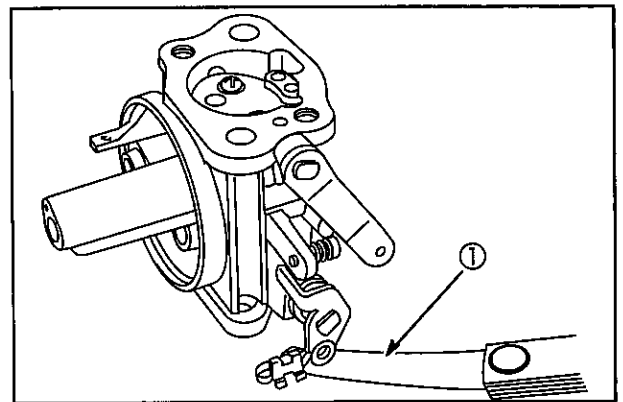

Fig. 41
1. Lay carburetor on flat surface. Use a feeler gauge (1) to check throttle and choke shaft clearance as shown in Fig. 41.